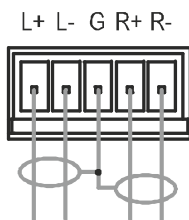

Figure 5: Balanced Stereo Audio Connection
- A balanced stereo audio connection, see Figure 5